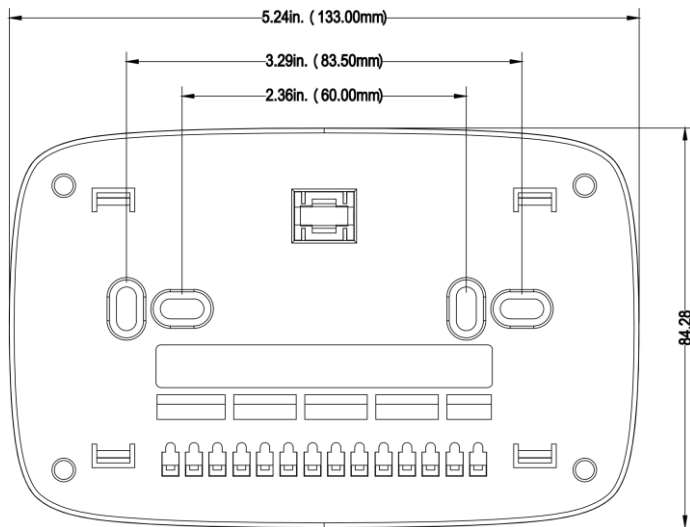

Fig. 3. Thermostat cover plate dimensions in inches. (mm).
3. MRCOOL® cover plate see Fig. 3.